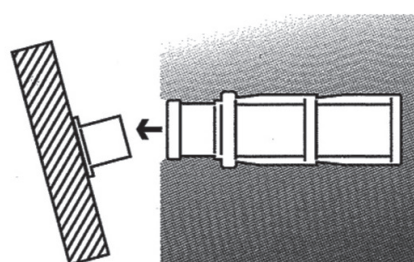

Fig. 6.6
3. When stripping the formwork, the nail holder is automatically removed from the anchor sleeve. You can now install the DW tie rod (Fig. 6.6).